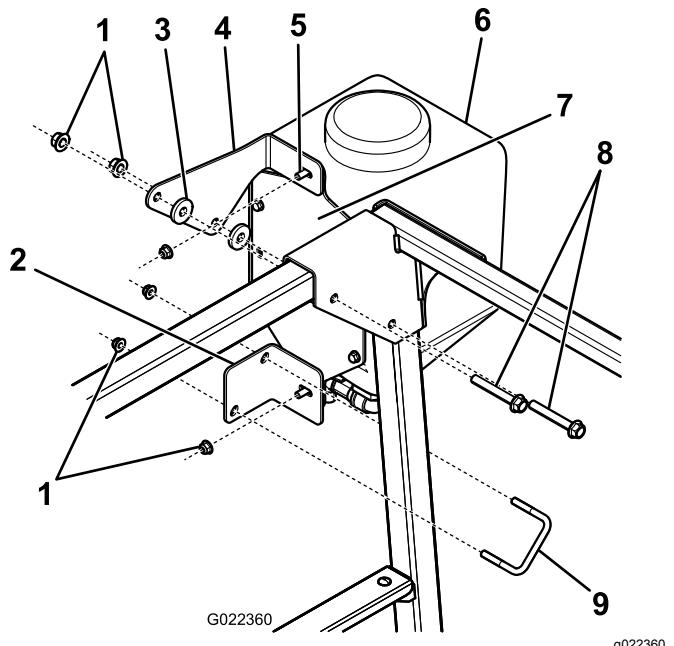

Figure 25
1. Install the upper and lower fresh-water tank mounts to the fresh-water tank using 2 flange-head bolts and flange nuts (Figure 25).
2. Attach the upper fresh-water tank mount to the ROPS using 2 washers, 2 bolts, and the existing nuts (Figure 25).
3. Secure the lower fresh-water tank mount to the ROPS using the U-bolt and 2 flange nuts (Figure 25).